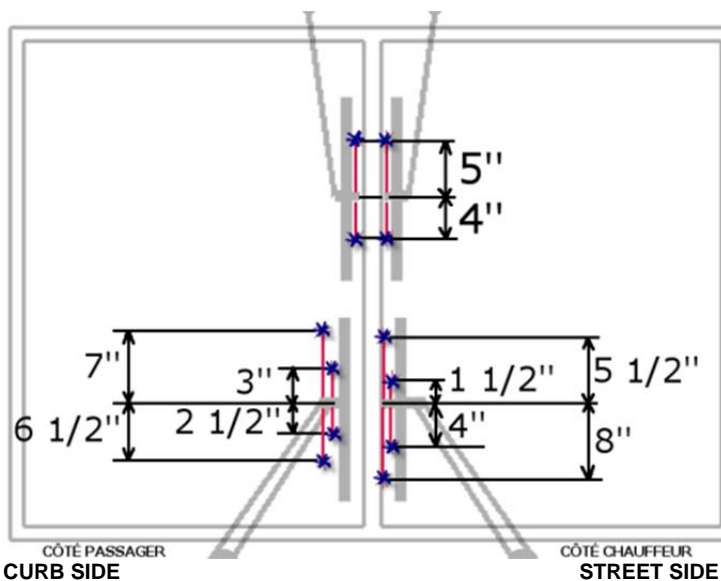

FIGURE 17
21. Adjust the jets position such a way that the washer jets reach the windshield at the locations indicated with a « * » symbol (FIGURE 17).